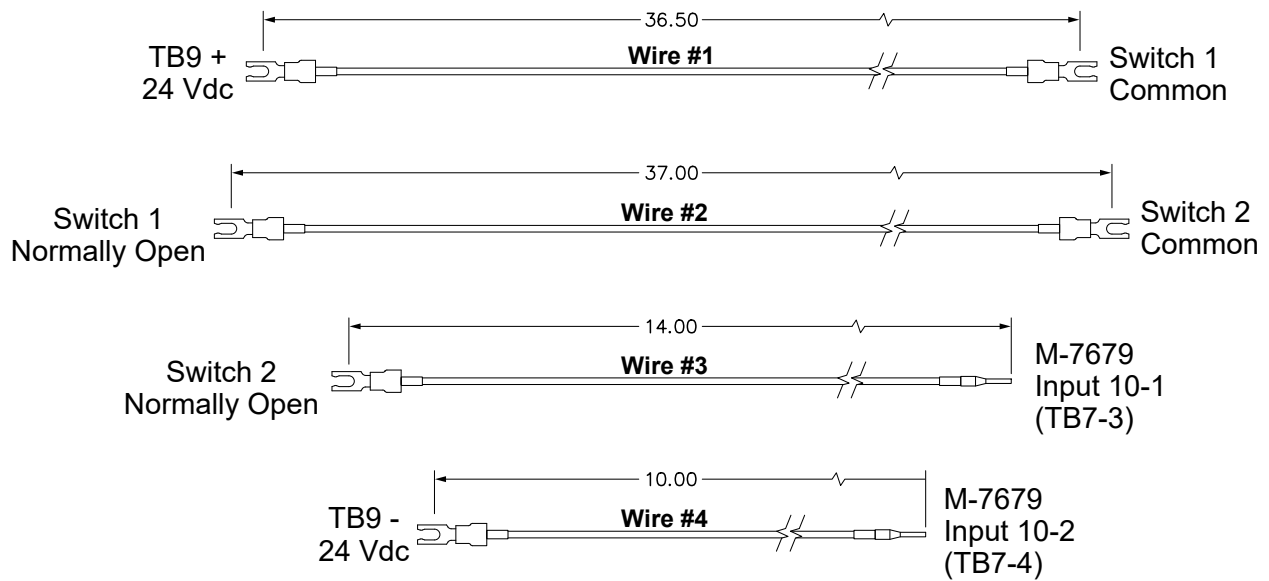

Figure 28 Intrusion Detection Kit Wire Identification
- Four connection wires with "To" and "From" wire markers (see detail Figure 28)